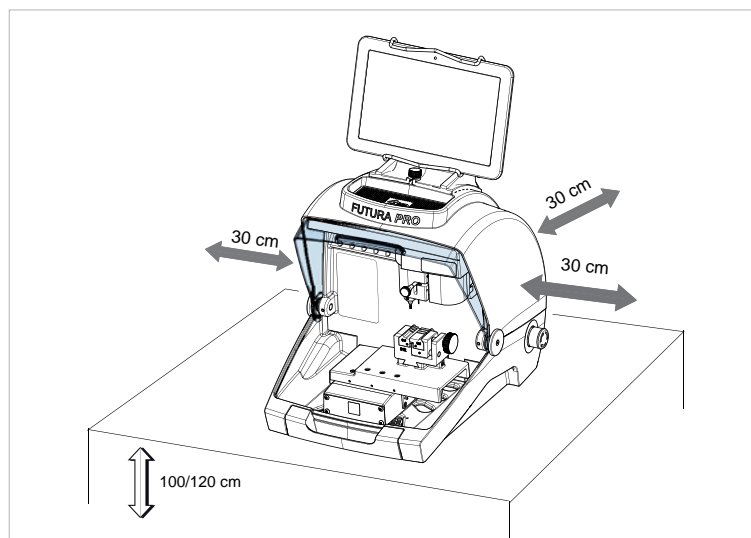

Fig. 9
- 1) Place the key-cutting machine on a solid horizontal work bench suitable for the weight of the machine (17 Kg). The work bench should be approximately 100-120 cm high to facilitate access to the working parts. We recommend leaving at least 30 cm clearance behind and around the machine to ensure good ventilation and facilitate handling (Fig. 9).